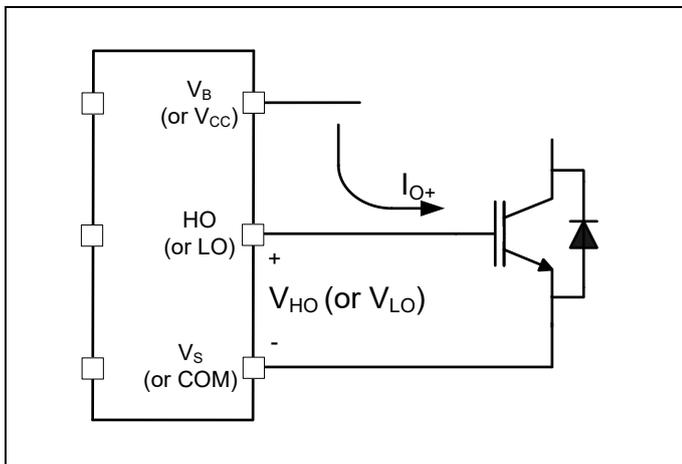

Figure 4 HVIC Sourcing current
The 2ED2183(4)S06F(J) HVIC is designed to drive MOSFET or IGBT power devices. Figures 4 and 5 illustrate several parameters associated with the gate drive functionality of the HVIC. The output current of the HVIC, used to drive the gate of the power switch, is defined as  $I_O$ . The voltage that drives the gate of the external power switch is defined as  $V_{HO}$  for the high-side power switch and  $V_{LO}$  for the low-side power switch; this parameter is sometimes generically called  $V_{OUT}$  and in this case does not differentiate between the high-side or low-side output voltage.